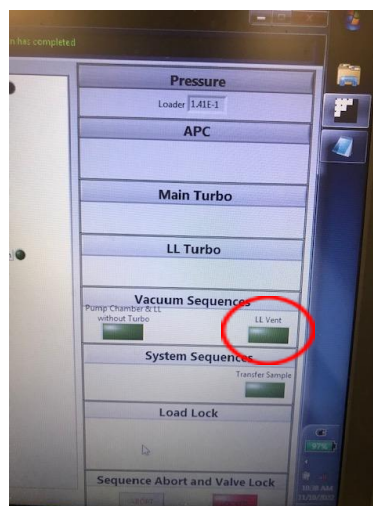

Figure 6: Load Lock Vent Button
- 9.5.4. Vent load lock by clicking “LL Vent”. **Figure 6.**